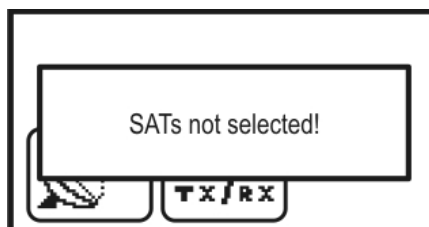

Figure 4.6.9
b) a satellite is defined for each LNB. If this condition is not fulfilled, the following message appears on the screen (figure 4.6.9).